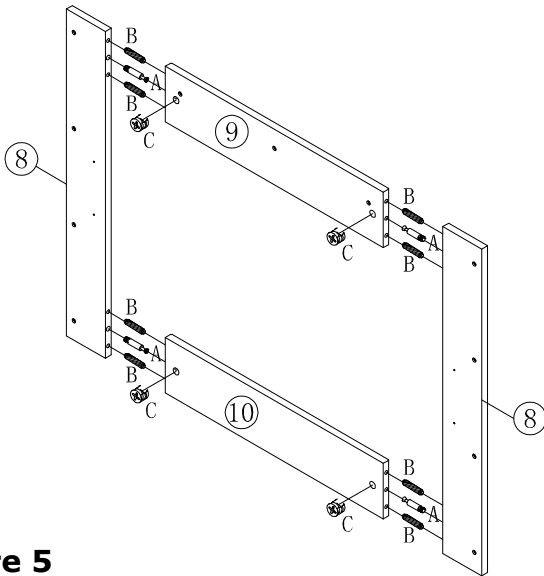

Figure 5
INSERT 4PCS CAM-BOLTS (A) AND 8PCS WOOD DOWELS (B) INTO PREDRILLED HOLES ON EDGES OF LEFT AND RIGHT BACK PANELS (8) AND FIT INTO CORRESPONDING HOLES ON ENDS OF UPPER AND LOWER CROSS BRACE (9&10). INSERT 4PCS CAM-LOCKS (C) INTO BIG HOLES ON BACK OF UPPER AND LOWER CROSS BRACE (9&10) WITH SLOT FOR SCREWDRIVER FACING OUTWARD. ROTATE CAM-LOCKS (C) CLOCKWISE TO SECURE CAM-BOLTS (A). AS FIGURE 5 SHOWN.